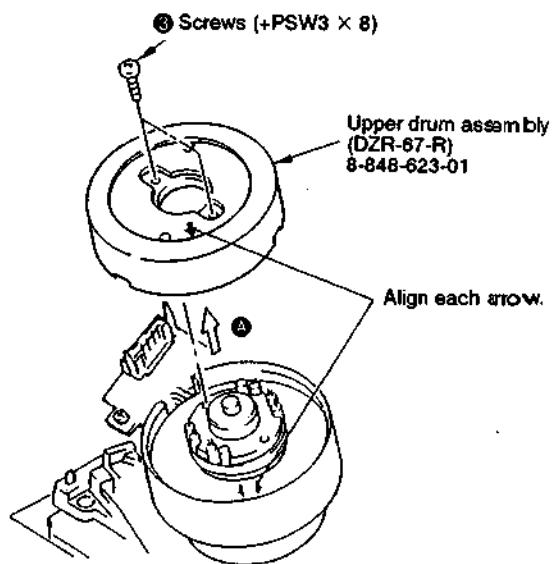

Fig. 5.
- 3) Remove two screw ③ (PSW3 × 8) and take out the rotary upper drum in the arrow direction ④. (See Fig. 5.)
- 2) Mount the rotaly upper drum board by aligning marked → with marked ⇨ of rotary transformer board (lower drum) so that the screw holes of both upper and lower drums match. (See Fig. 5.)
- 4) Tighten two screws ③ (PSW3 × 8). (See Fig. 5.)
- 6) Fix the grounding shaft ② using the screw ① (+P3 × 6) so that the protrusin of grounding shaft end contacts the center of the drum shaft.